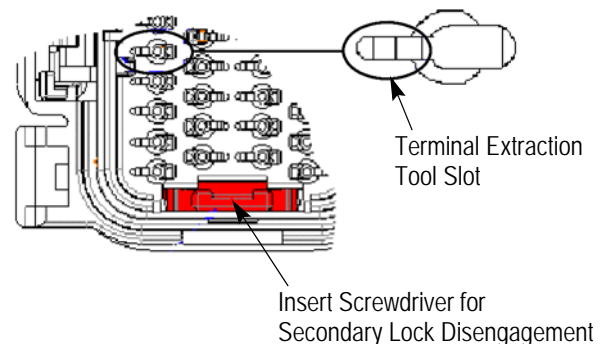

Figure 9
1. Open the secondary lock by inserting a small screwdriver behind the secondary lock's red rectangular tab and prying it open. See Figure 9.